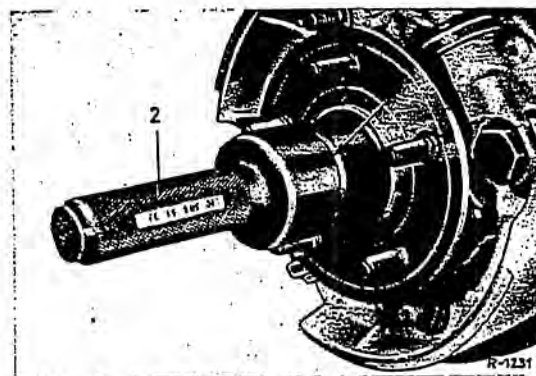

Fig. 33-5/10
- 29. Put anti-friction bearing grease into the hub cap (for prescribed amount see Job No. 33-0) and press on the cap using Fixture 180 589 11 39 (Fig. 33-5/10).